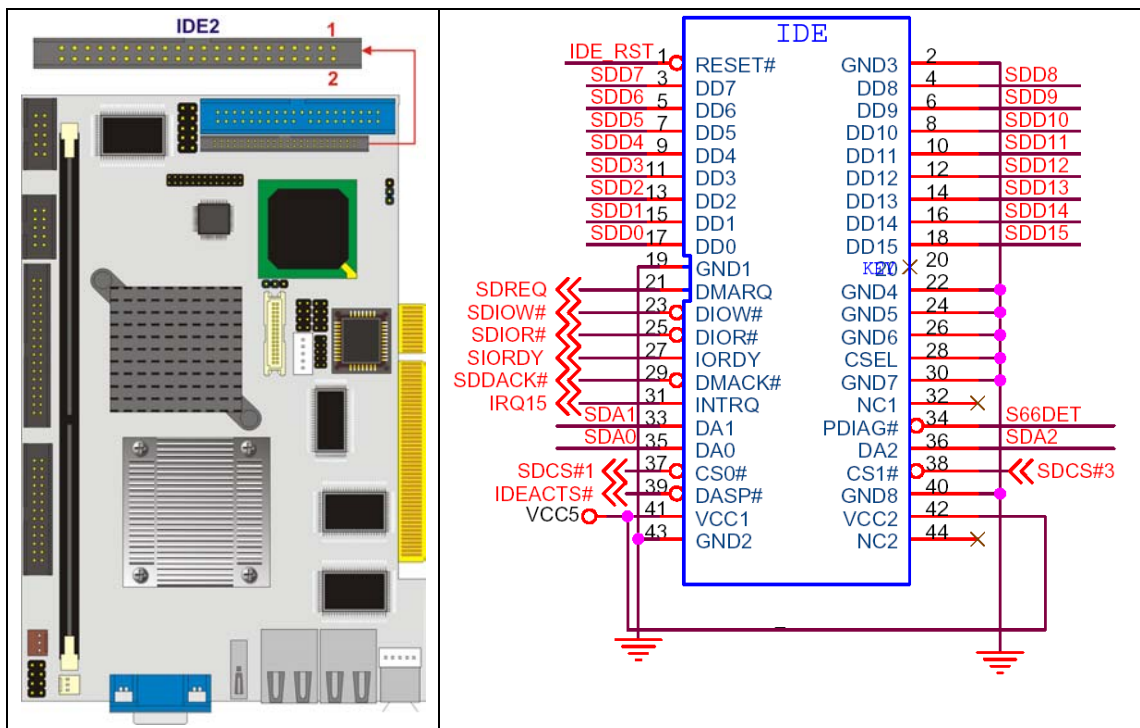

Figure 3-12: Secondary IDE Device Connector Locations
- CN Location:** See Figure 3-12